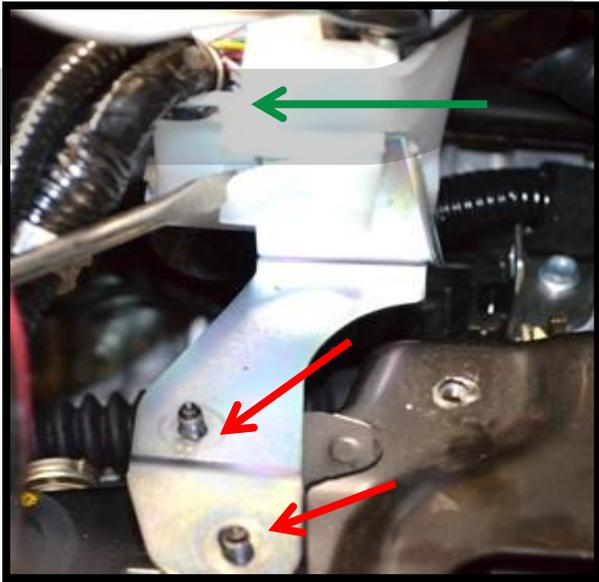

Figure 2a
- a) **Remove the ECU wiring harness bracket.** Use a flat head screwdriver to pry the locking tab up, and pull the harness towards the front of the car. (Green Arrow in Figure 2a) Then remove the two 10mm nuts holding the bracket and remove it. Nuts shown removed. (Red Arrows in Figure 2a)
- b) **Open the white plastic cover on the wiring harness.** Use a small flathead screwdriver to press down on the tabs shown with the red arrows in Figure 2a. Use another small flathead screwdriver to pry up on the plastic over the tabs shown with the green arrows in Figure 2a. Work your way around for all four tabs .